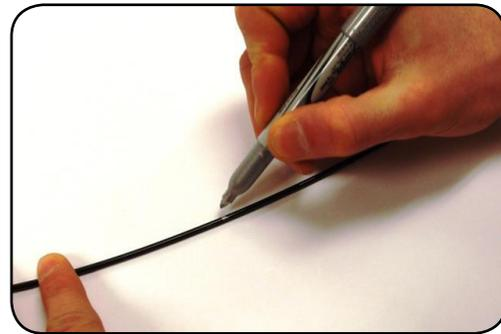

Figure 1
**Step 1:** Determine the required 900um breakout length needed for your application and mark the FieldShield cable using an appropriate writing utensil (**Figure 1**).